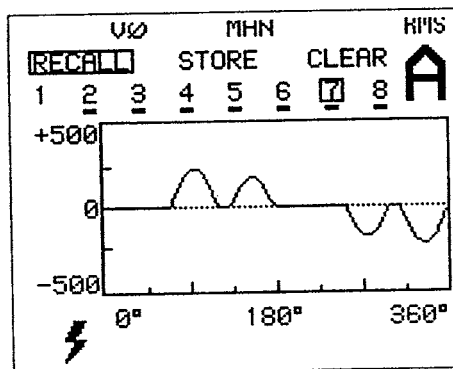

Figure 16. Memory Screen
Referring to Figure 16, use the following procedure to store and recall measurements:
1. Press **MEMORY** to access the Waveform Storage Screen. The Tester freezes the existing waveform and shows the screen in Figure 16.